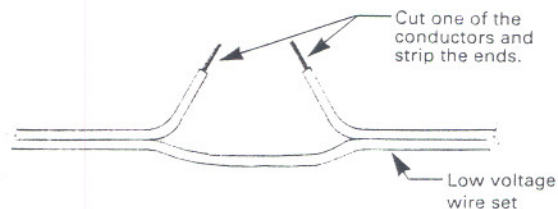

FIG. 18
3. Cut one of the conductors and strip the insulation from both ends (Fig.18)